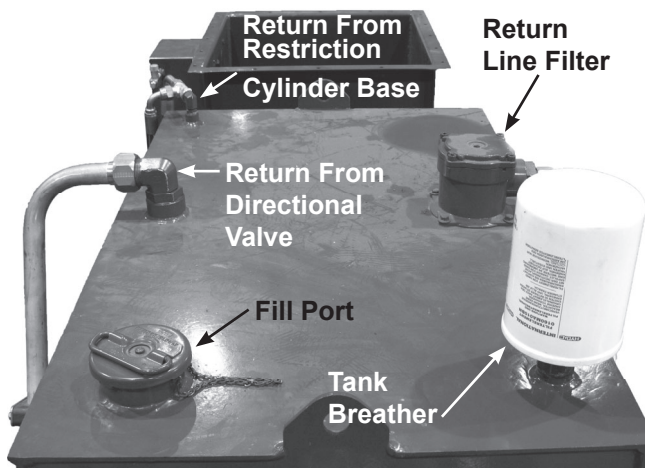

Figure 11 - Fill Port and Breather Cap
All new oil put into the system is added through a "Fill Port" (see Figure 11). To get from the fill port into the system, the oil must pass through the Fill Screen. This degree of filtration helps to reduce component wear within the system, resulting in improved system life.
The oil tank breather cap should be changed every six (6) months (see Figure 11).